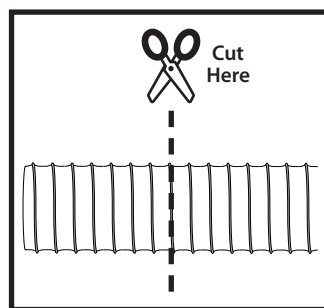

FIG. 12a
Cut the 7" Diameter Flex Hose (M) in half using a razor knife and diagonal cutter to cut through the clear lining and reinforcing wire. [FIG. 12a].